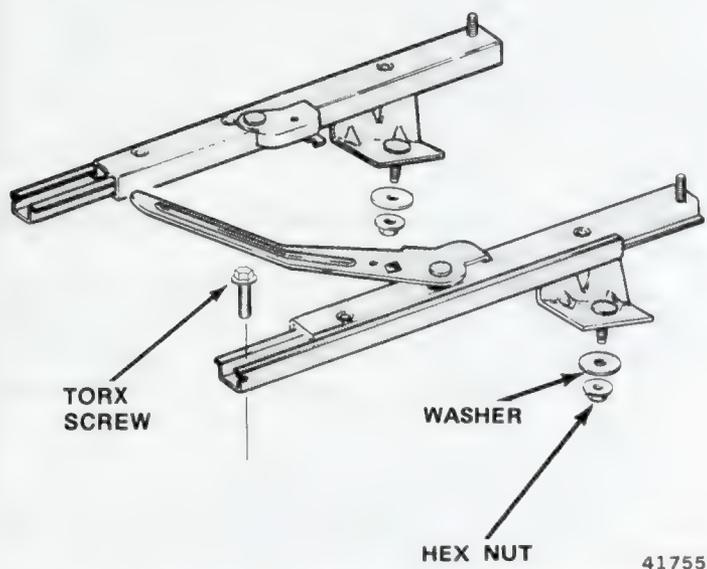

Fig. 3M-3 Front Seat Adjusting Slides—Gremlin-Concord-AMX
- (1) Where front center seat belts go through the seat assembly, remove seat belt-to-floorpan shoulder bolts using Torx Bit Tool J-25359-02.
- (2) Disconnect seat belt wiring harness, if equipped.
- (3) Move seat assembly to the full rear position on the adjusting slides to gain access to the front screws (fig. 3M-3). Remove front attaching screws using Torx Bit Tool J-25359-02.
- (4) Remove nuts and washers attaching adjusting slides to floorpan from underneath.
- (5) Remove seat assembly from car.